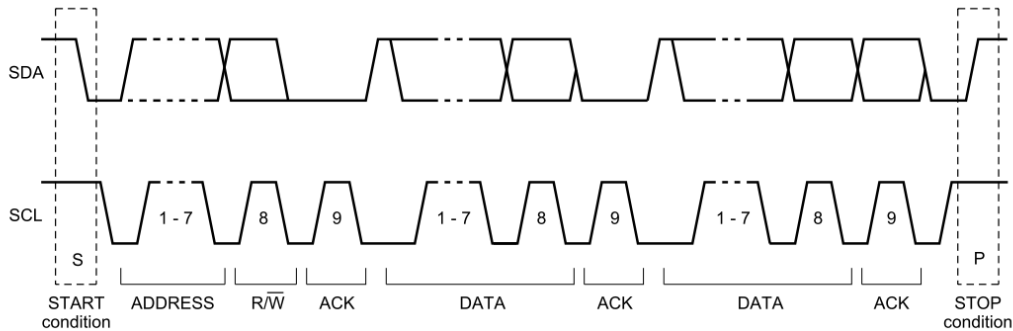

Figure 42. An Example of I²C Data Transfer
The RT8848A/B features an I²C interface to allow user to adjust various operating parameters. The supported operating parameters that can be adjusted through I²C communication are summarized as below register tables. The data transfers follow the format shown in Figure 42. After the START condition (S), a slave address is sent. The address is 7 bits long followed by an 8 bits which is a data direction bit (R/W). A data transfer is always terminated by a STOP condition (P) generated by the master. However, if a master still wishes to communicate on the bus, it can generate a repeated START condition (Sr) and address another slave without first generating a STOP condition. Various combinations of read/write formats are then possible within such a transfer.